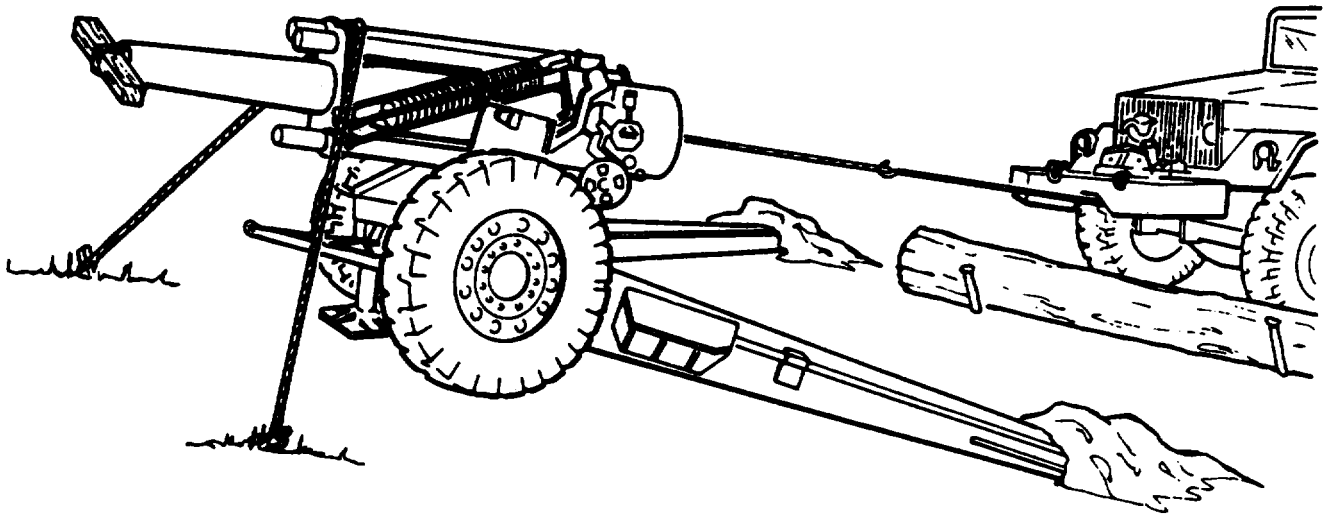

Figure 1-2. Exercising Recoil Mechanism of Towed Artillery with Trails Spread and Spades Dug In by using Winch on Heavy Truck or Tractor
d. Winch-Weapon with Trails Spread/Spades Dug In. Certain field artillery guns (table 2-1) set up with the trails spread and spades dug in and self-propelled weapons anchored in place utilizing parking brakes or blocking may be exercised by using a sufficiently strong winch on a heavy truck or tractor to pull the cannon rearward (figure 1-2). The cannon must be positioned at an elevation angle that will permit a straight pull with the winch. Anchor the truck or tractor if the required pull is too great for the weight of the truck or tractor. Stake or weight the carriage down, if necessary. Refer to paragraph 1-3d for instructions on the use of a power winch.